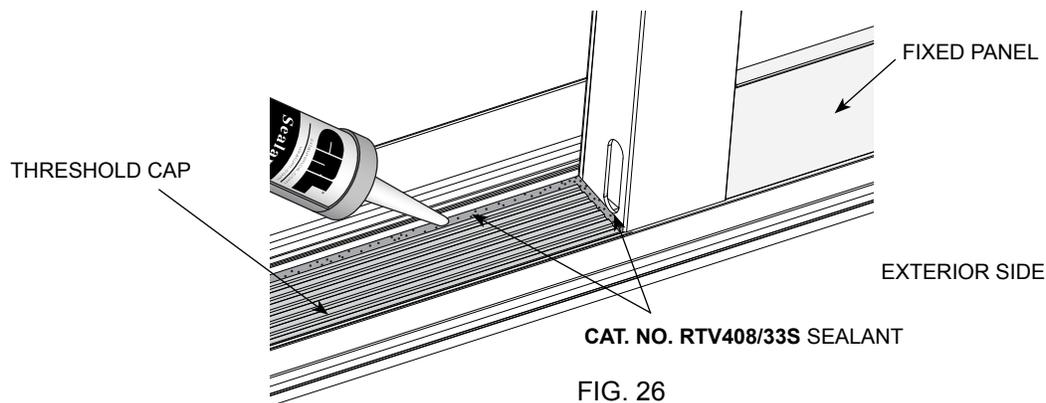

FIG. 26
3. Apply **Cat. No. RTV408** or **Cat. No. 33S** sealant around the perimeter of the threshold cap. (FIG. 26)